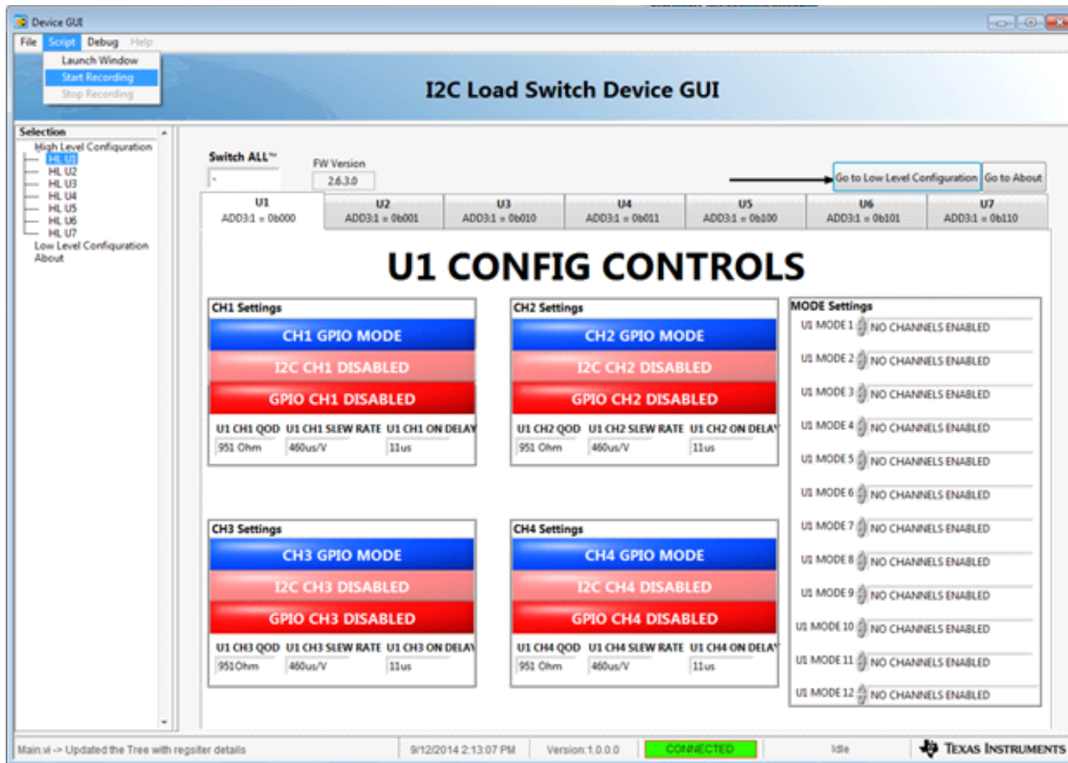

Figure 14. Select Start Recording
- (D) Go to the drop down menu Script >> Start Recording, see Figure 14